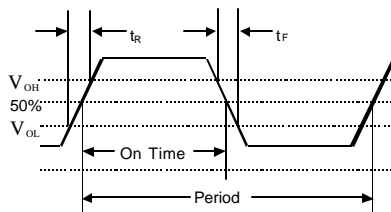
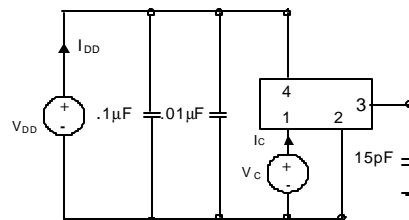

Figure 3. Output Waveform
Figure 4. Typical Output Test Conditions ($25 \pm 5^\circ\text{C}$)
2. Figure 3 defines these parameters. Figure 4 illustrates the operating conditions under which these parameters are tested and specified. For $F_o > 90$ MHz, rise and fall time is measured 20 to 80%.